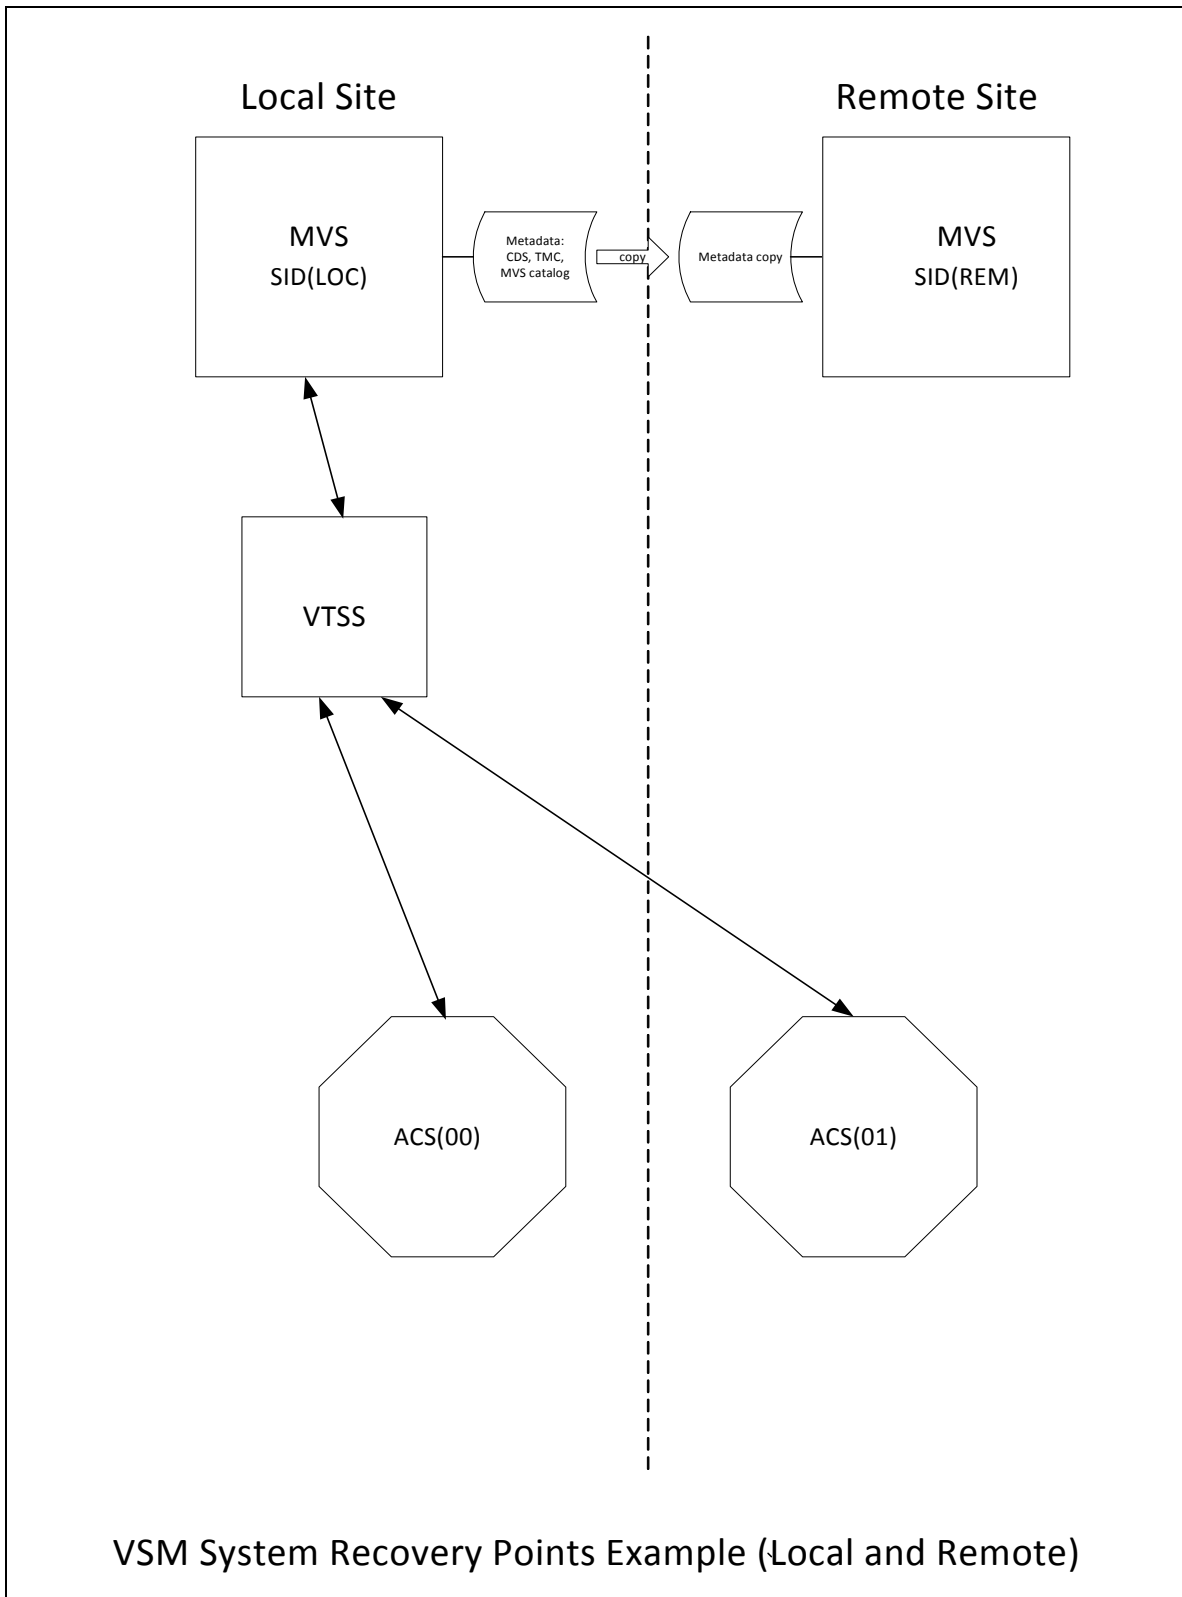

FIGURE 8-1 VSM System Recovery Points Example (Local and Remote)
- ? We have a local site with a VTSS plus an ACS (ACS 00), and a remote site with just an ACS (ACS 01) as shown in FIGURE 8-1 on page 189.
To run this example using the configuration shown in FIGURE 8-1 on page 189: